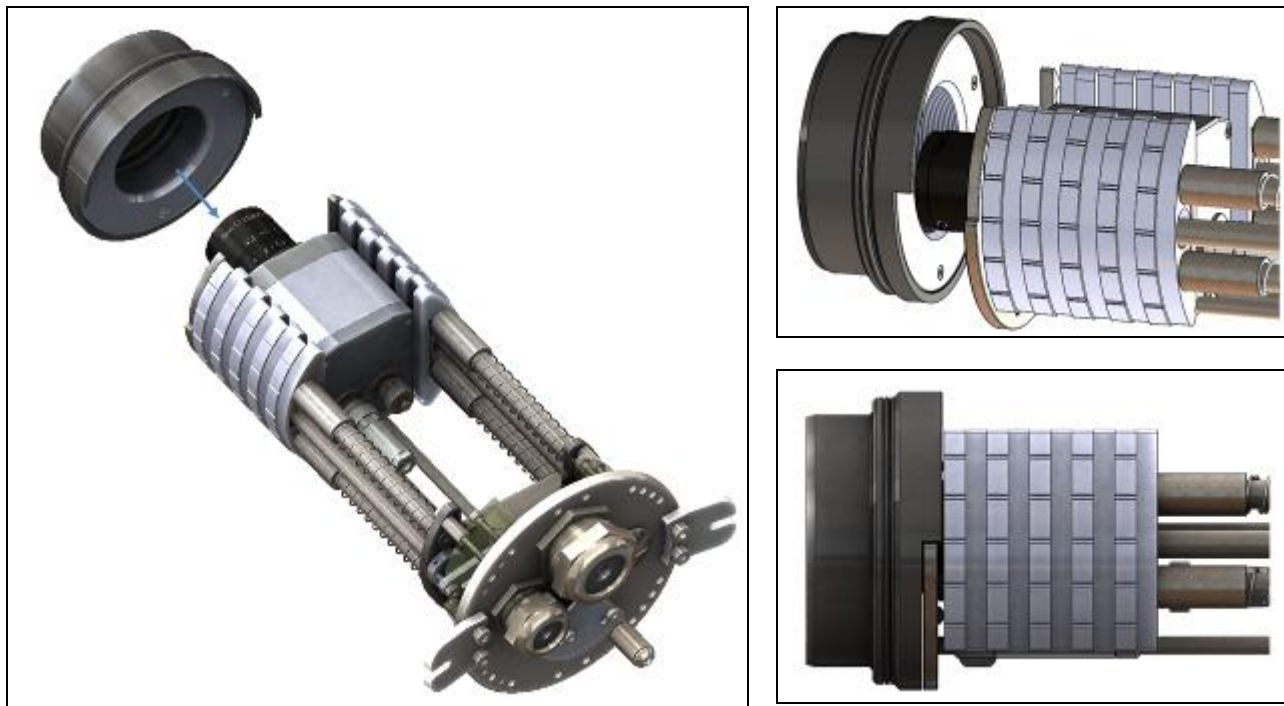
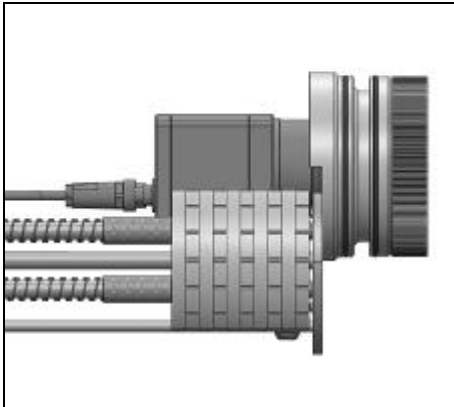
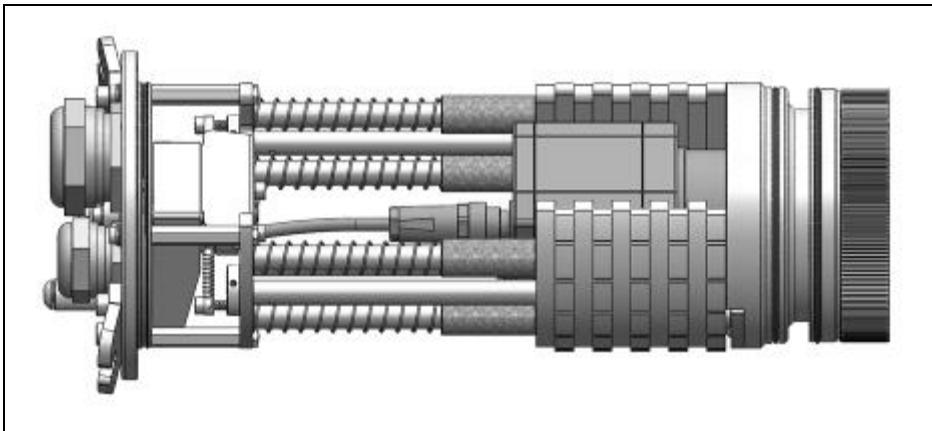

Figure 19: Assembling of the PI 1M/ 05M
Figure 22: Inserting of the focusing unit
Figure 23: Focusing unit with camera
2. Seat the focusing unit or front part in the chassis (**Figure 22**). Position it as shown in **Figure 23**, by pushing it to the bottom. The PI 1M/ 05M camera is first placed into the chassis without the front part. After that the front part is attached to the optic. Make sure that the front part is placed at a height of approx. 5 mm above the optic in order to be able to slide it over the chassis front plate (**Figure 19**).